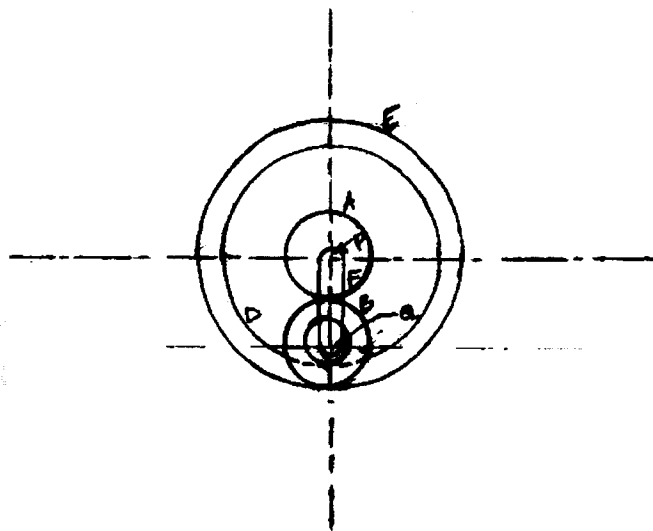

Fig. Q7
- 7 Compound epicyclic gear is shown in Fig. Q7. The gears A, D and E are free to rotate on the axis P. The compound gear B and C rotate together on the axis Q at the arm F. All the gears have equal pitch. The number of external teeth on the gears A, B and C are 18, 45 and 21 respectively. The gears D and E are annular gears. The gear A rotates at 100 rpm in anticlockwise direction and the gear D rotates at 450 rpm clockwise. Find the speed and direction of the arm and the gear E. (20 Marks)